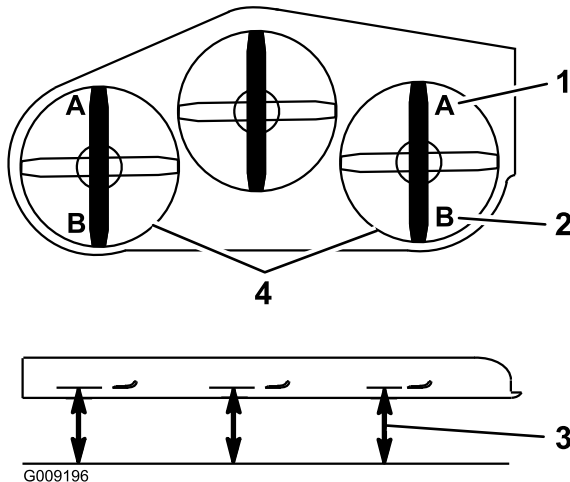

Figure 85
9. On both sides of the deck, measure from the level surface to the front tip of the blade (Postion A). The measurement should read 3 inches (7.6 mm) (Figure 85).
15. On both sides of the deck, measure from the level surface to the back tip of the blade (Position B). The measurement should read 3 1/4 inches (8.3 cm) (Figure 85).